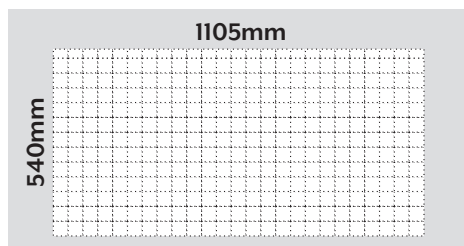

FIGURE 12
1. Prepare bench top cut out using the template provided (Figure 12). Use a fine point marker; then make your cut as accurately as possible.